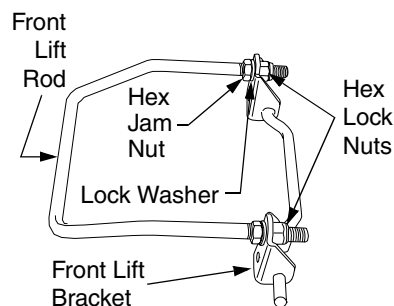

Figure 32
4. Adjust the front lift rod as follows to attain the proper pitch of the mower deck (See Figure 32).